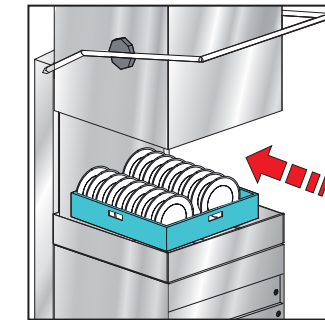

Fig.1
3. Remove any loose food scraps and soil. Place items in the rack correctly making sure the hollow-ware is inverted. Slide the rack into the machine in the direction as shown in Fig.1 and close the door.